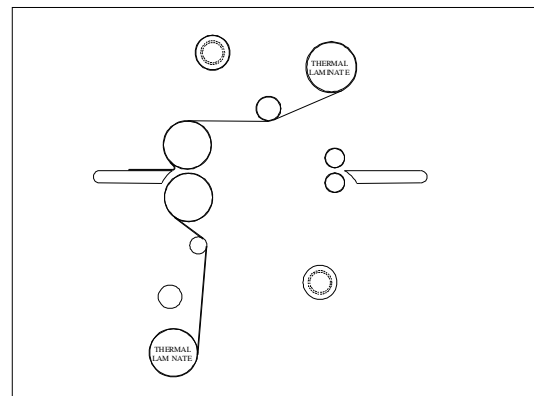

Figure 21
6. Pivot the table back to its feeding position while ensuring the threading card is on top of the feed table (Fig. 21).